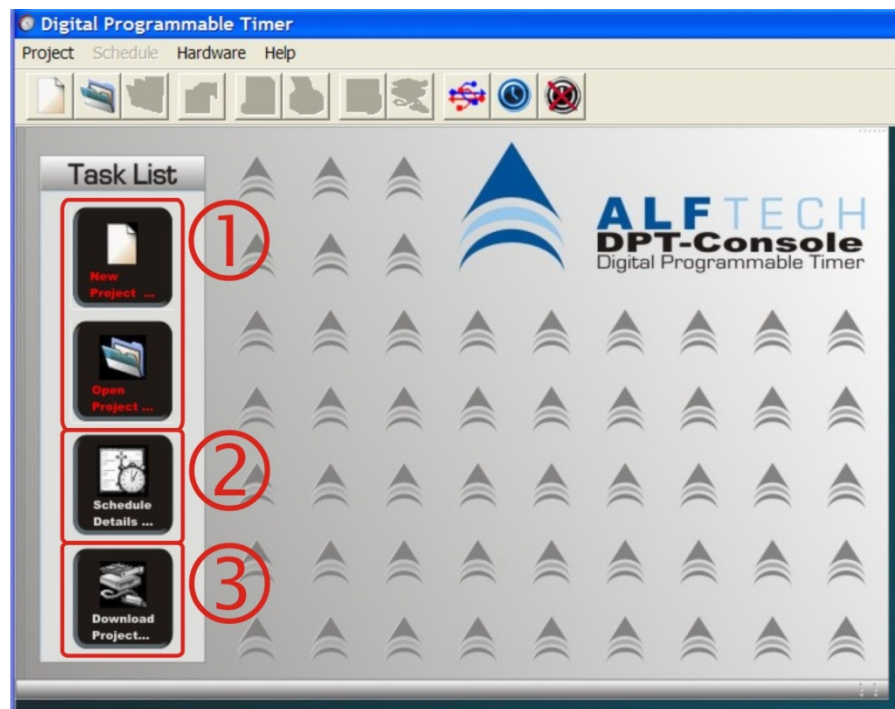

Fig. 1: The primary User Interface (the DPT-CONSOLE Desktop)
STEP ①: Create a new DPT Project file (*.dpt) by selecting the "New Project..." Icon on the DPT-CONSOLE Desktop (Fig. 1 above). Once a Project file has been created, you can always reopen the file to edit and modify the schedule, and configure the hardware again.